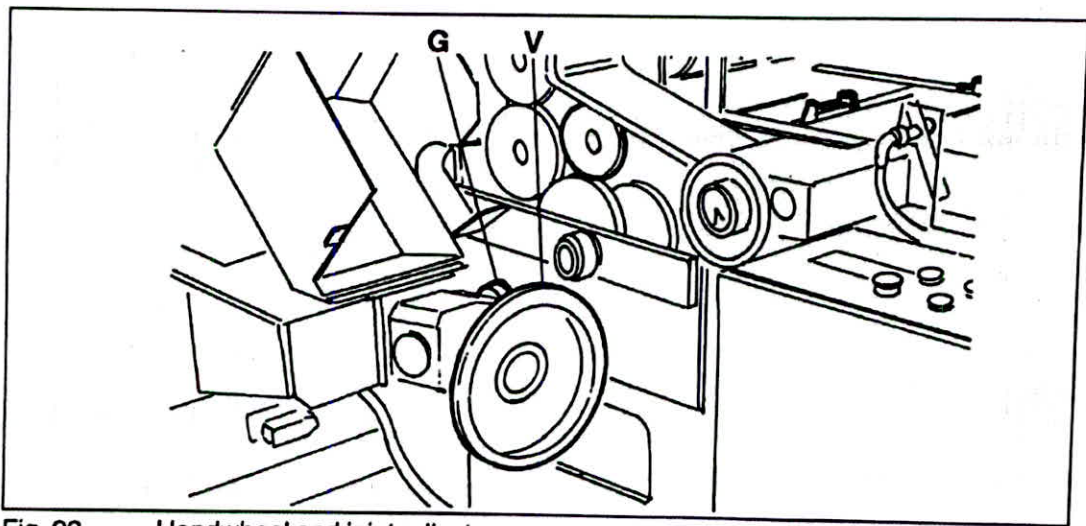

Fig. 23 Handwheel and joint adjuster
2. Using the handwheel (Pos. V Fig. 23) feed out the sheet 2 cm. from the discharge roller (pos. B fig. 34).
9. With the handwheel (Pos. V Fig. 23) move the sheet forward and let it drop onto the second slitter table.
12. Fit the joint (Pos. G Fig. 23)